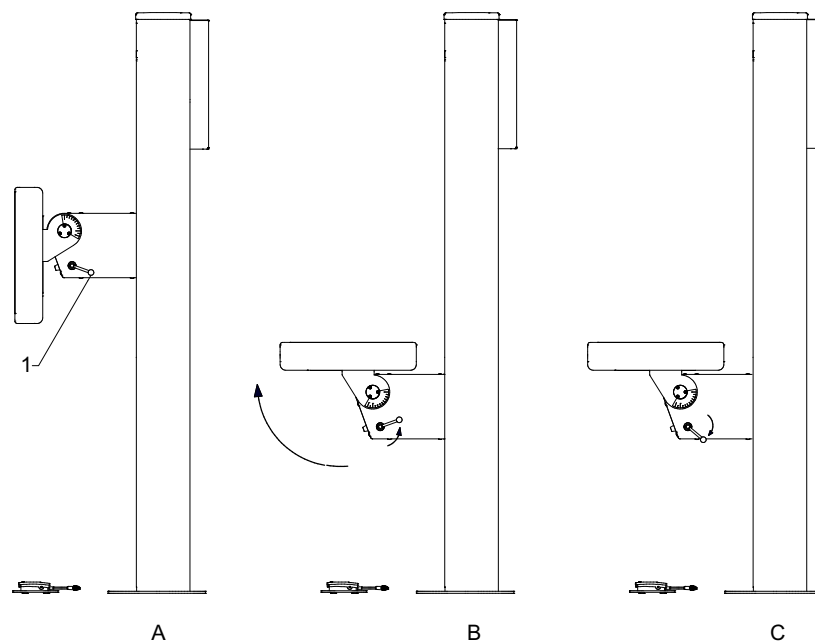

Fig. 3-19 Tilting detector holder
To position the handle in its start position, see pos.1 in **Fig. 3-19**.